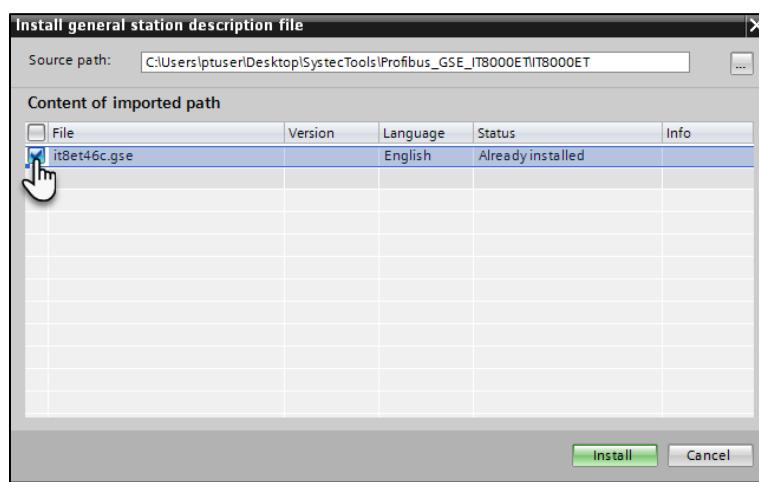

Figure 49:Catalog File Install Screen
- Run the **Install General Station Description** wizards from the **Option** tab on your software. The install screen should look like the one shown in **Figure 49**.